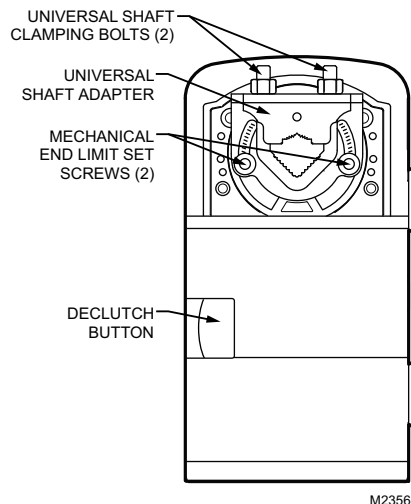

Fig. 1. Series 60 Floating Actuator.
The two mechanical end-limit set screws control the amount of rotation from 12° to 95°. These set screws must be securely fastened in place. To ensure tight closing of the damper, the shaft adapter has a total rotation stroke of 95° (see Fig. 1).
2. The Declutch button, when pressed, allows you to rotate the universal shaft adapter (see Fig. 1).